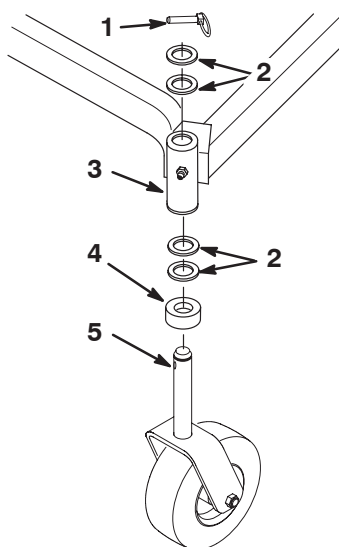

Figure 55
2. Remove the locking pin and spacer(s) from the top of the caster wheel fork (Fig. 55).
6. Inspect the castor wheel fork for wear and replace if necessary (Fig. 55).
7. Slide the castor wheel fork through the bushings in the mounting tube. Replace the spacer(s) onto the fork and secure with the retaining ring (Fig 55).